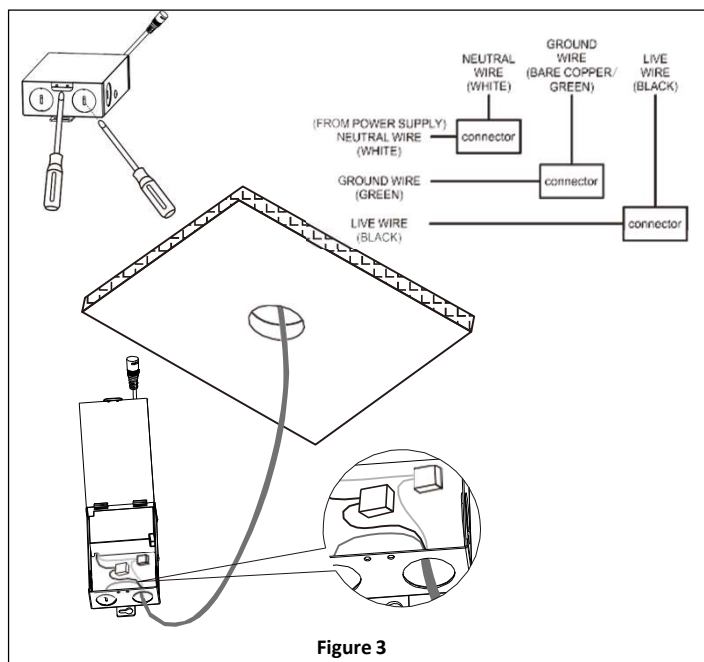

Figure 3
- Open the cover of the remote driver box. Push, twist and remove one or more knockouts using a flat bladed screwdriver discarding the knockout(s). Feed the supply wire into the knockout hole. Locate the power supply leads to the remote driver box and connect to supply wires using the supplied wire connectors (Black to Line, White to Neutral and Green to Ground). **See Figure 3.**